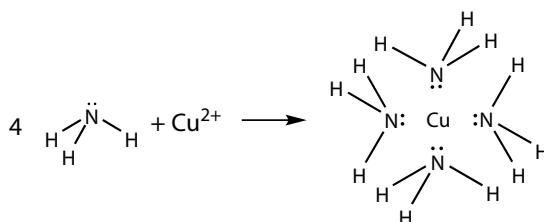

Figure 15.18 Complex formation.
A third way to inhibit free radical reactions is to provide species that bind to metal ions and prevent them from accelerating the formation and interconversion of reactive oxygen species. Various species can bind to certain metals forming covalent bonds in which the species provide both of the shared electrons. The species providing the electrons are called **ligands**. A simple example that is not directly relevant to beer stability would be the reaction of ammonia with Cu^{2+} ions to make a deep blue complex ion (Fig. 15.18). The unshared pair of electrons in ammonia provides both of the electrons in the bond with copper(II) ion. Copper ions tied up in this way are less able to participate in electron transfer reactions.